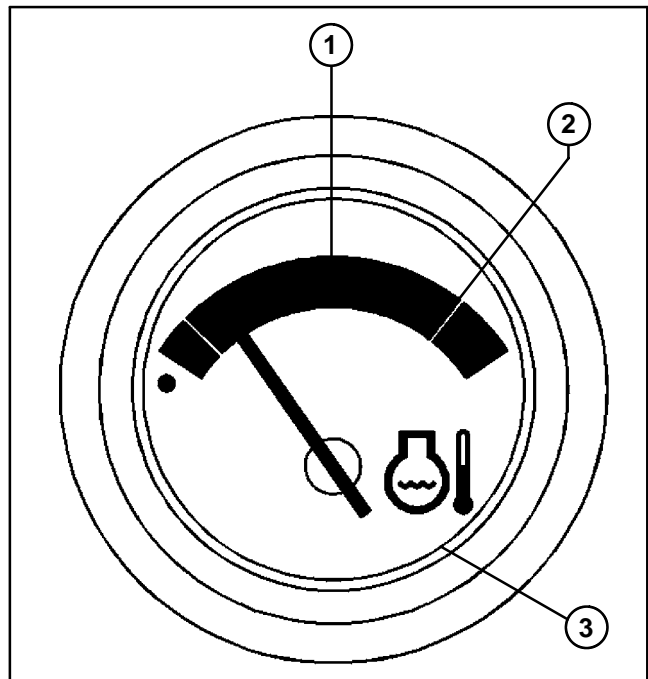

Figure 47
2. Take test point readings (Fig. 47).